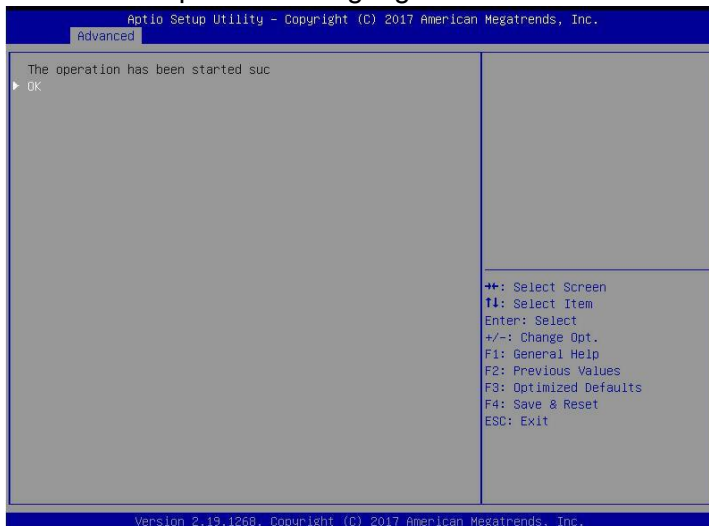

Figure 6-90
g) Enter the interface shown in Figure 6-90 to complete the operation of erasing logical disk data.
✧ Figure 6-90 Completed erasing logical disk data